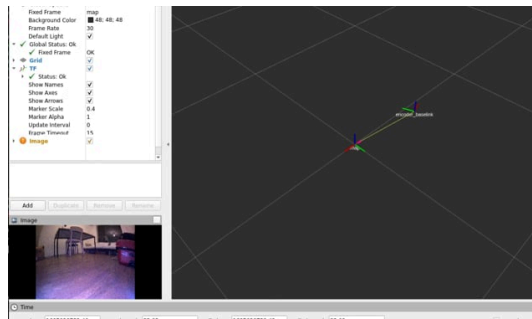

Figure 4.1. Example video deliverable for the encoder localization package
- A screen recording similar to this Figure 4.1 where you drive the robot in a loop and try to “close the loop” (by driving to the point where you started from). Make sure that the video contains the camera images as well as the TF tree in Rviz. Use a visible landmark as the origin of the map frame.